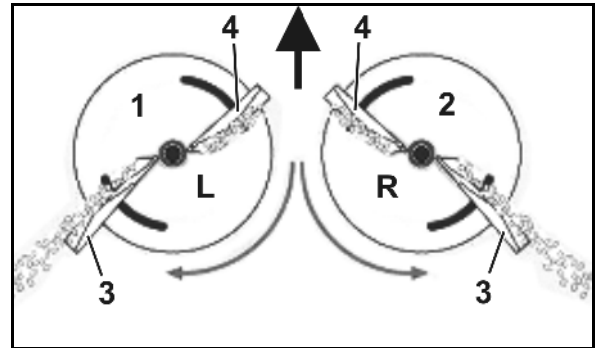

Fig. 18
- Left spreading disc (Fig. 18/1) with **L** mark.
- Right spreading disc (Fig. 18/2) with **R** mark.
- Long (Fig. 18/3) - Adjustment scale with values from 35 to 55.
- Short (Fig. 18/4) - Adjustment scale with values from 5 to 28.